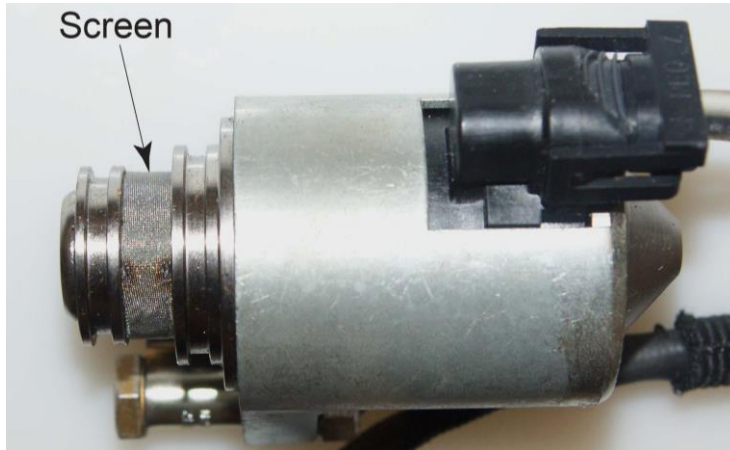

Figure 1
- Hand-wipe the wastegate solenoid valve screen (Figure 1) with a clean lint-free cloth soaked with Avgas or Mineral Spirits as necessary to remove any accumulated debris. **Do not use compressed air to clean the screen or the solenoid outlet.**